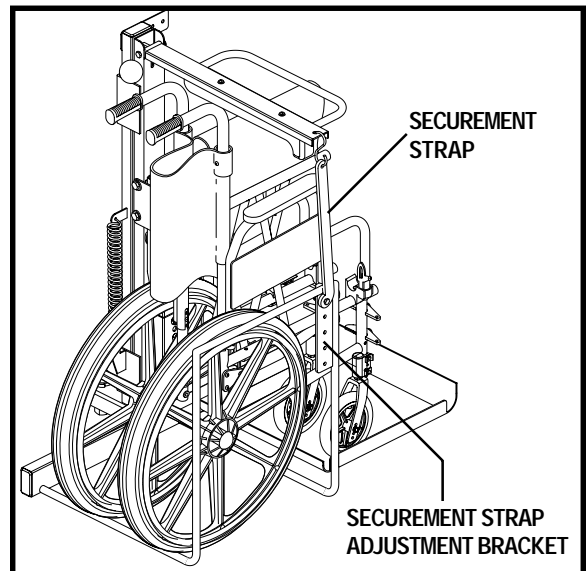

Figure 5. Wheelchair Securement
9. Fold the wheelchair according to the manufacturer's instructions, position the chair on the carrier platform, and engage the wheelchair park brakes. See figure 5.
13. Attach the securement strap to the securement arm (see figure 5) and note the tension in the strap. If the strap is loose, adjust the height of the strap on the securement strap adjustment bracket until the proper tension is achieved.